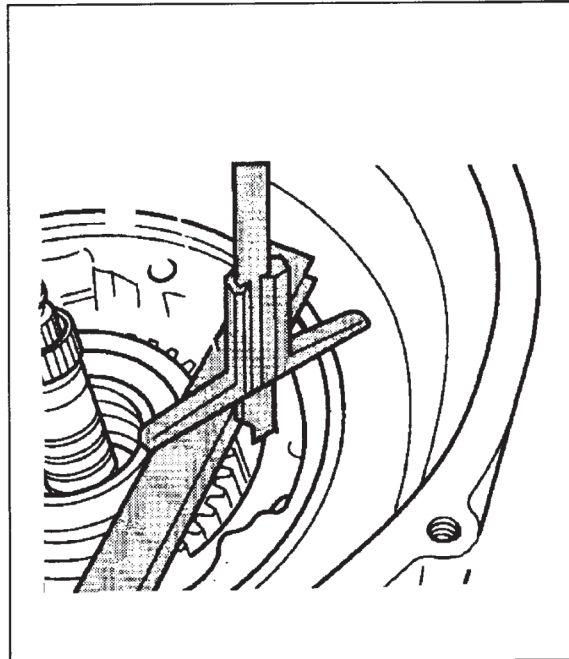

Figure 155
3. Measure with a depth gauge to pump flange on the transmission housing (See Figure 155). Example: Reading 2 = 34.3 mm